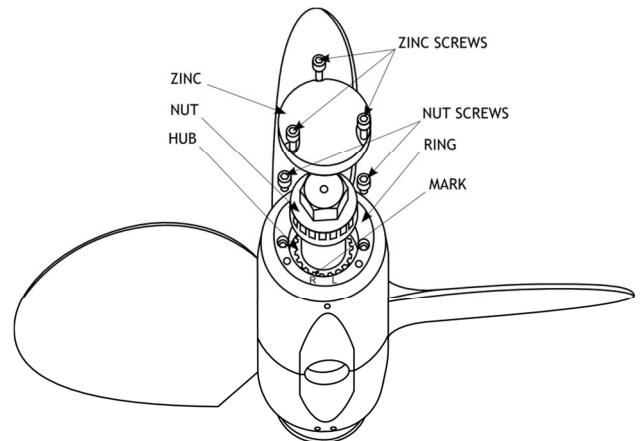

Fig. 6
In order to change the rotation of the MAX PROP EASY®, from a right hand rotation to a left hand rotation or vice versa do as follows, referring to fig. 6
- If you place the zinc bearing ring in its seat again, matching the “L” tooth with the hub reference mark, you have a left hand rotating propeller, on the contrary, with the “R” tooth you have a right rotating propeller as in fig. 6